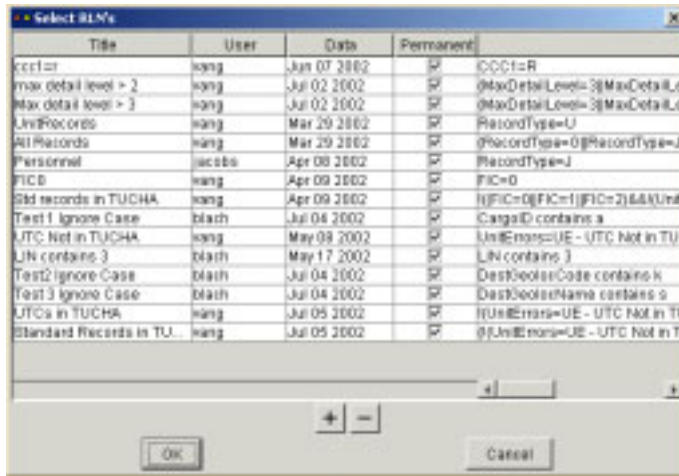

Figure 5.108 Select RLN's Window
2. Click  or on the View menu, click Select RLN's. The Select RLN's window opens (Figure 5.108).